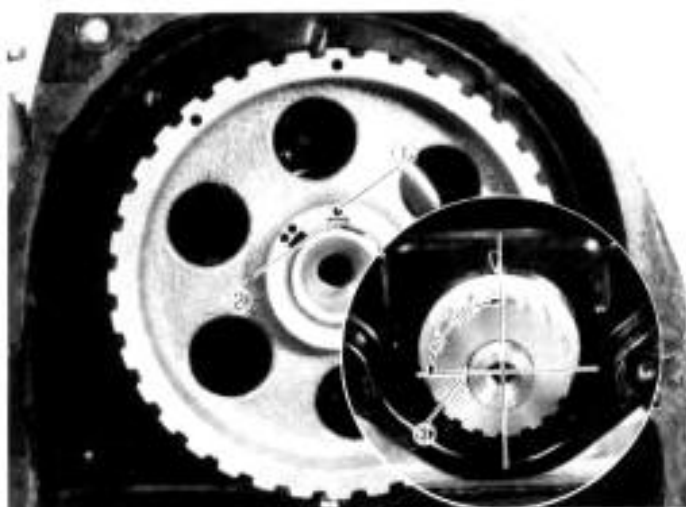

Fig. 3-136
It is highly important that keyway ③ of crankshaft should face sidewise, as shown in Fig. 3-136. Check this first, and then install the timing belt pulley as above.